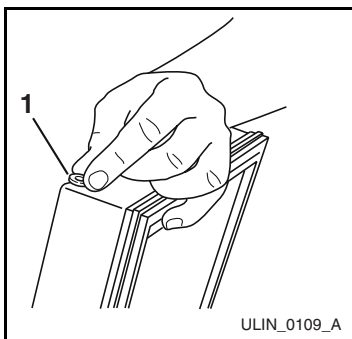

Figure 42
- Relocate plastic spacer/bushing (**Figure 42, 1**) on bottom of door to opposite side, and place door on bottom hinge pin. Clean out bushing hole in door bottom with a screwdriver if needed.